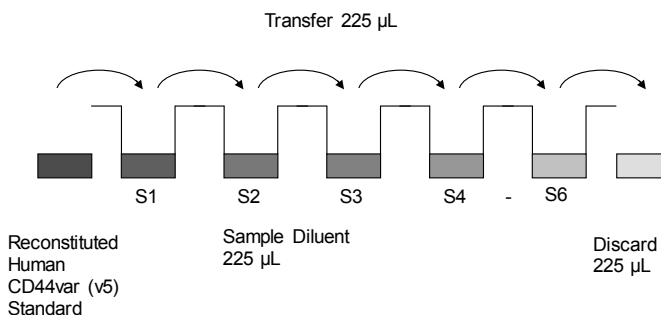

Fig. 5 Dilute standards - tubes
- Repeat serial dilutions 4 more times thus creating the points of the standard curve (see Figure 5).